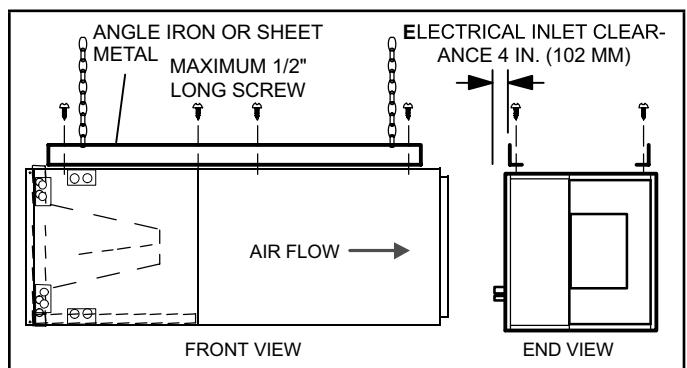

FIGURE 6. Suspending Horizontal Unit
- 5 - If the unit is suspended, the entire length of the cabinet must be supported. If you use a chain or strap, use a piece of angle iron or sheet metal attached to the unit (either above or below) to support the length of the cabinet. Use securing screws no longer than 1/2 inch to avoid damaging the coil or filter. See figure 6. Use sheet metal screws to connect the return and supply air plenums as required.
- 12 - If suspending the unit, it must be supported along the entire length of the cabinet. If using chain or strap, use a piece of angle iron or sheet metal attached to the unit (either above or below) so that the full length of the cabinet is supported. Use securing screws no longer than $1/2"$ to avoid damage to coil or filter, as illustrated in figure 6. Connect return and supply air plenums as required using sheet metal screws.